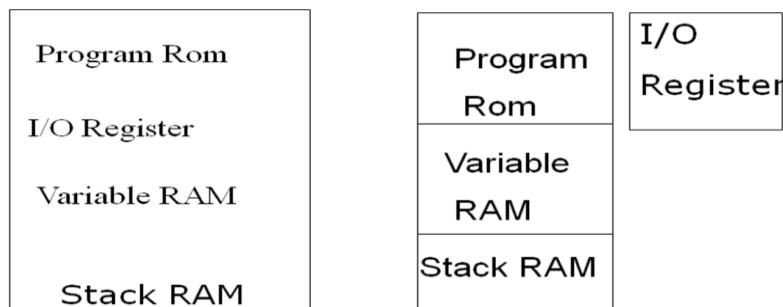
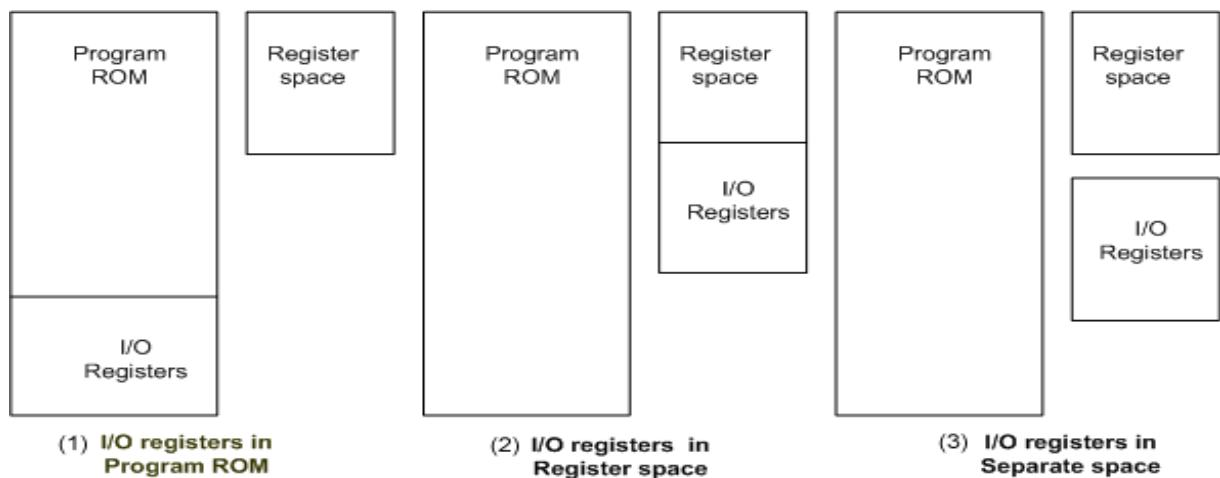
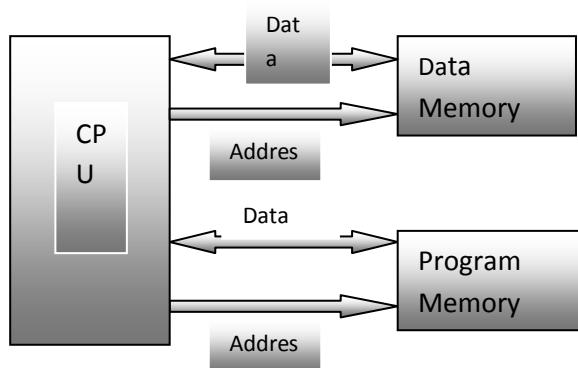

Fig 4. Input/Output Registers in Princeton Architecture
Fig. 5.Organization of I/O registers in Harvard Architecture
Fig6. Harvard Architecture
In a microprocessor, input /output (I/O) devices are externally interfaced and are mapped either to memory address (memory mapped I/O) or a separate I/O address space (I/O mapped I/O). There are two possible architectures one is Princeton (Von Neumann) and another is Harvard .I/O Registers space in Princeton architecture have only one memory interface for program memory (ROM) and data memory (RAM). One option is to map the I/O Register as a part of data memory or variable RAM area (memory mapped I/O). Alternatively a separate I/O register space can be assigned (I/O Mapped I/O) . Both the arrangements are shown in Fig.4.
As shown in Fig 4. Program memory and Data memory are together in both the arrangements. The Princeton or Von neumann architecture one bus is used to carry the address and data with an appropriate multiplexing technique ,which in turn reduces the cost. But Harvard architecture which 8051 employs has separate Data memory and separate Code or Program memory . The Fig. 5 and Fig .6 show the need for separate address and data bus for each Program and Data memory in Harvard architecture. Since there are separate bus for access the operation of fetching the code and data can happen simultaneously which increases the speed of operation of execution inside CPU.
In Fig. 5 , the first option is difficult to implement as there is no means to write to program ROM area. It is also complicated to have a separate I/O space as shown in (3). Hence the second option where I/O registers are placed in the register space is widely used in Harvard architecture.